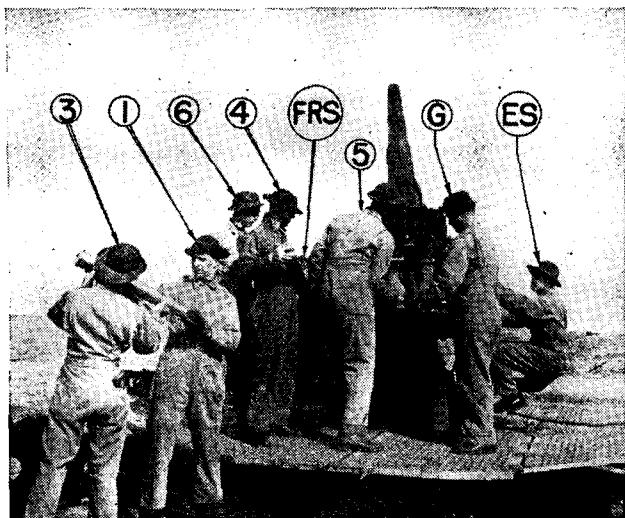

FIGURE 2.—Round being rammed, M3 gun on M2A1 mount
■ 16. METHOD OF RAMMING CARTRIDGE.—The gunner rams the cartridge into the gun with his left hand. He places his gloved fist on the base of the cartridge case, wrist practically vertical, and sweeps the round smartly into the breech, applying continuous pressure, until the closing breechblock knocks his hand clear. The cartridge is rammed with the side of the fist, the pressure being applied through the back of the thumb and the side of the index finger. In this manner continuous pressure can be applied, and the hand cannot be caught in the breech. Figure 2 illustrates the proper method of ramming.
■ 17. METHOD OF HANDLING AMMUNITION AND FUZE SETTER, M8.—*a.* (1) Nos. 4, 1, and 3 relay ammunition to the fuze setter. No. 3, takes a round from the stack near the piece, right hand grasping the projectile, left hand near the base, turns to the right, and passes it to No. 1. He then repeats the operation. No. 1 takes the round from No. 3, the round resting in his upturned palms, right hand near the base, left hand near the projectile, turns to the left, and lifting the round to the level of his eyes passes it to No. 4, who is stationed on the mount platform. He then turns to the right and receives another round from No. 3, repeating the operation. No. 4, stationed on the mount platform slightly to the rear and left of the fuze setter guide, turns to the right and takes the round from No. 1, fuze toward the setter, left hand grasping the projectile and right hand cupped over the cartridge base. He turns to the left, advancing a step toward the setter as he raises the base end to aline the round with the axis of the setter. As the fuze enters the setter guide his left hand is withdrawn, and with his right hand launching the round downward to its final seating in the setter, he leans forward and, being balanced by his right hand, which is *pressing against* the base end of the case, brings his left hand over and strikes a quick slap against the release lever on the top side of fuze setter. At the release of the setting mechanism No. 4 *maintains momentarily his right hand pressure on the base of the completely inserted round* to permit the setting operator, No. 6, time to complete one turn of the crank and call out, "Cut." No. 4 then straightens
(1) No. 4 maintaining pressure against the cartridge case base until No. 6 commands, "Cut." The use of a heavy glove on the right hand of No. 4 will greatly reduce the friction against his hand produced by the rotating case.
(2) No. 4 executing the release of the crank with a *glancing* slap at the release lever so that the latter will instantly recover and re-arm itself before No. 6 has completed a full revolution of the crank.
(3) No. 6 must maintain sufficient downward pressure on crank so rotation will start the instant the release is tripped. Otherwise, No. 4 would have to hold the release lever "open" and possibly fail to let it re-arm in time for the crank at the end of its one revolution. When setting original or reconditioned Mk. III or Mk. IIIA1 powder train fuzes, the setting crank of the fuze setter should be turned at a moderate speed until the setting pawls have engaged the body lug of the fuze, after which the crank may be speeded up for the remaining 180° or so of the setting cycle. The body lug in the above type fuzes will not withstand the pick-up force which may be applied by the high speed of the M8 fuze setter.
d. Figures 2 and 3 illustrate the service of ammunition to the fuze setter and to the breech. Figure 2 shows No. 5 holding the round in position for loading, with the gunner in